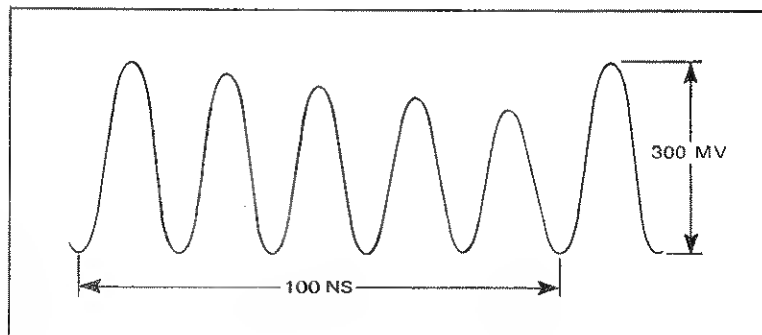

Figure 5.1 - 5th Harmonic Output
- a. With an oscilloscope referenced to TP1, monitor TP2 and adjust C23 for an oscilloscope display as shown in figure 5.1.